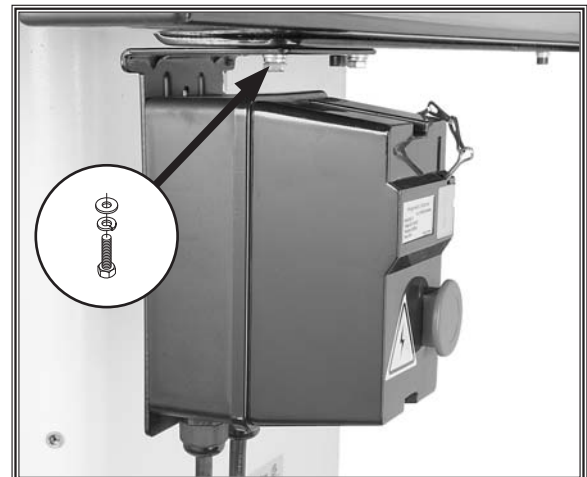

Figure 26. Magnetic switch installed.
1. Install the magnetic switch onto the bottom left hand side of the front rail using two M6-1 x 12 hex bolts, 6mm lock washers, and 6mm flat washers, as shown in **Figure 26**.